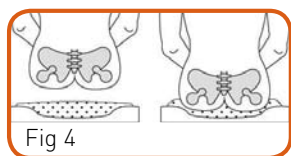

Fig 4
- spread pressure evenly across entire body surface in contact (Fig 4)